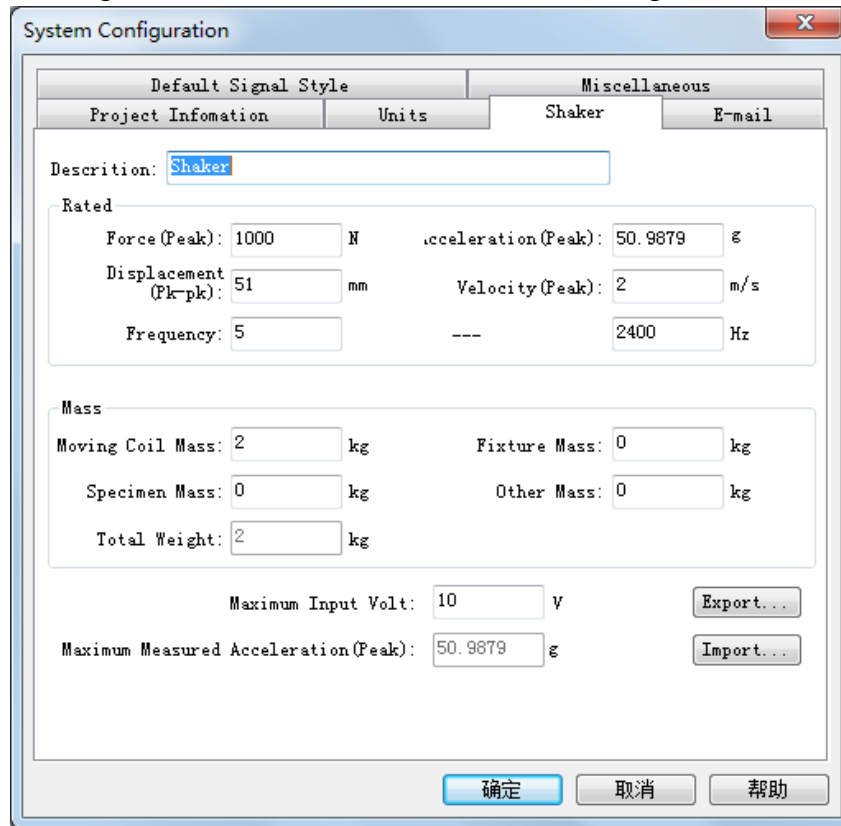

Figure 4
2) Click "System Configuration" to set Shaker Parameters. See Figure 4.